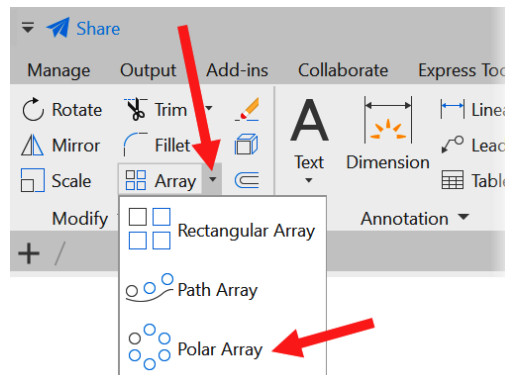

Figure 6.17: The Array flyout menu
3. Click on the **Array** flyout to display the various arrays that can be created in AutoCAD, as shown in *Figure 6.17*.